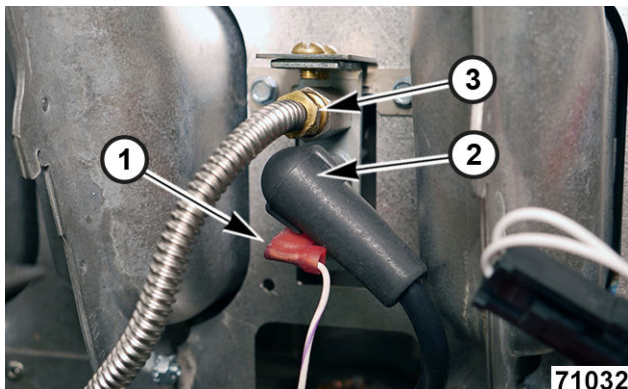

Fig. 70
4. Disconnect flame sense wire (1, Fig. 70) from flame sensor terminal.
5. Remove electrode cable (2, Fig. 70).
6. Disconnect pilot gas tube. (3, Fig. 70).
11. Connect pilot gas tube (3, Fig. 70).
12. Connect electrode cable (2, Fig. 70).
13. Connect flame sense wire (1, Fig. 70).